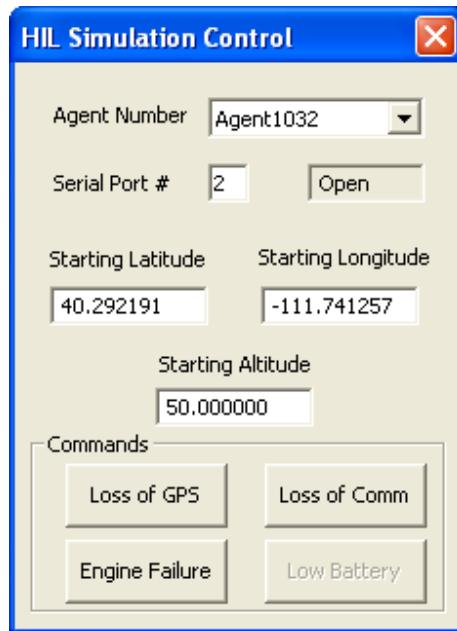

Figure 7-9 Hardware-in-the-Loop Simulation Control Window
10. Under the View menu select **HIL Simulation Control**. This will open up a new dialog box allowing you to configure the simulation session (See Figure 7-9).
- d. Press **Enter** – The box should turn white and the word “Open” should be displayed in the box to the right (see Figure 7-9).